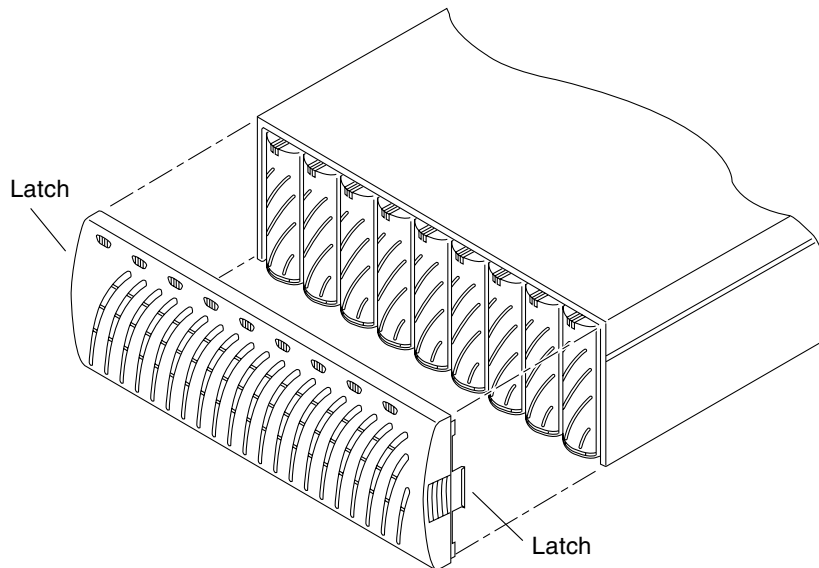

FIGURE 2-1 Removing the Front Panel
4. Remove the front panel of the array by pressing in on the side latches and pulling the cover off (FIGURE 2-1).